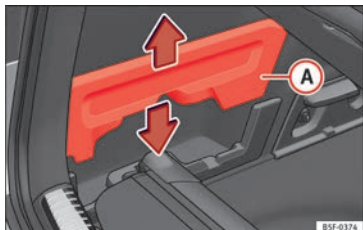

Fig. 169 In the luggage compartment: housing for storing the rear shelf.
- Remove covers »» Fig. 169 (A) left and right.